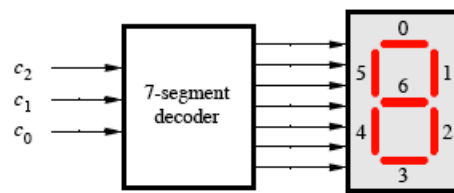

Figure 8. A 7-segment decoder.
Part IV: Figure 8 shows a *7-segment decoder* module that has the three-bit input $c_2c_1c_0$. This decoder produces seven outputs that are used to display a character on a 7-segment display. Table 1 below lists the characters that should be displayed for each valuation of $c_2c_1c_0$ (plus the ‘blank’ character, which is selected for codes 101 - 111).
The seven segments in the display are identified by the indices 0 to 6 shown in Figure 8. Each segment is illuminated by driving it to the logic value 0.
1. Write a VHDL entity/architecture to activate each of the seven segments. Use only simple VHDL assignment statements in your code to specify each logic function. Connect the outputs of the decoder to the *HEX0* display on the DE1-series board. The segments in this display are called *HEX0₀*, *HEX0₁*, : : , *HEX0₆*, corresponding to Figure 8. You should declare the 7-bit port: